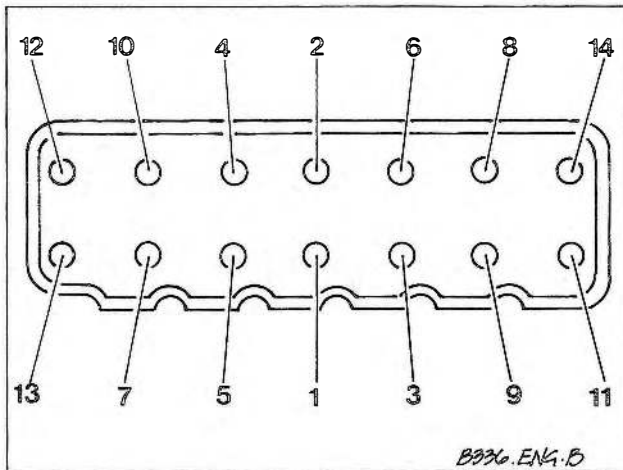

Fig. 4-64. Cylinder head bolt tightening sequence for 6-cylinder engine.
5. Tighten the cylinder head bolts in the sequence shown in Fig. 4-64. The bolts should be tightened in three stages as listed in Table h. The final stage(s) requires using a special tool (BMW Tool No. 11 2 110) or a suitable protractor to tighten the bolts to a specified torque angle.